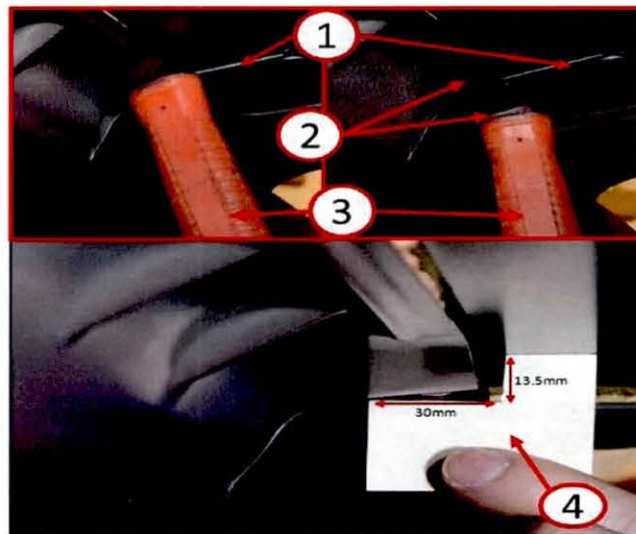

Fig. 4 Verify Modification
7. Using a backer plate (1) or heavy (3/8"/10mm minimum thickness) cardboard to protect and disburse any pressure applied against the outer roof sheet metal, carefully push the remaining left and right side of the low hanging sunroof reinforcement feature (2) upward using a hammer handle or equivalent blunt tool (3) to provide additional clearance (Fig. 4).
8. Using an index card or folder stock, create a verification gage (4) that will ensure the proper clearance is achieved as a result of modifying the sunroof reinforcement. The gage should measure 13.5mm down from the outer roof panel and 30mm inward from the outer edge of the sunroof reinforcement. Move the verification gage back and forth along this area to ensure proper clearance is achieved (Fig. 4).